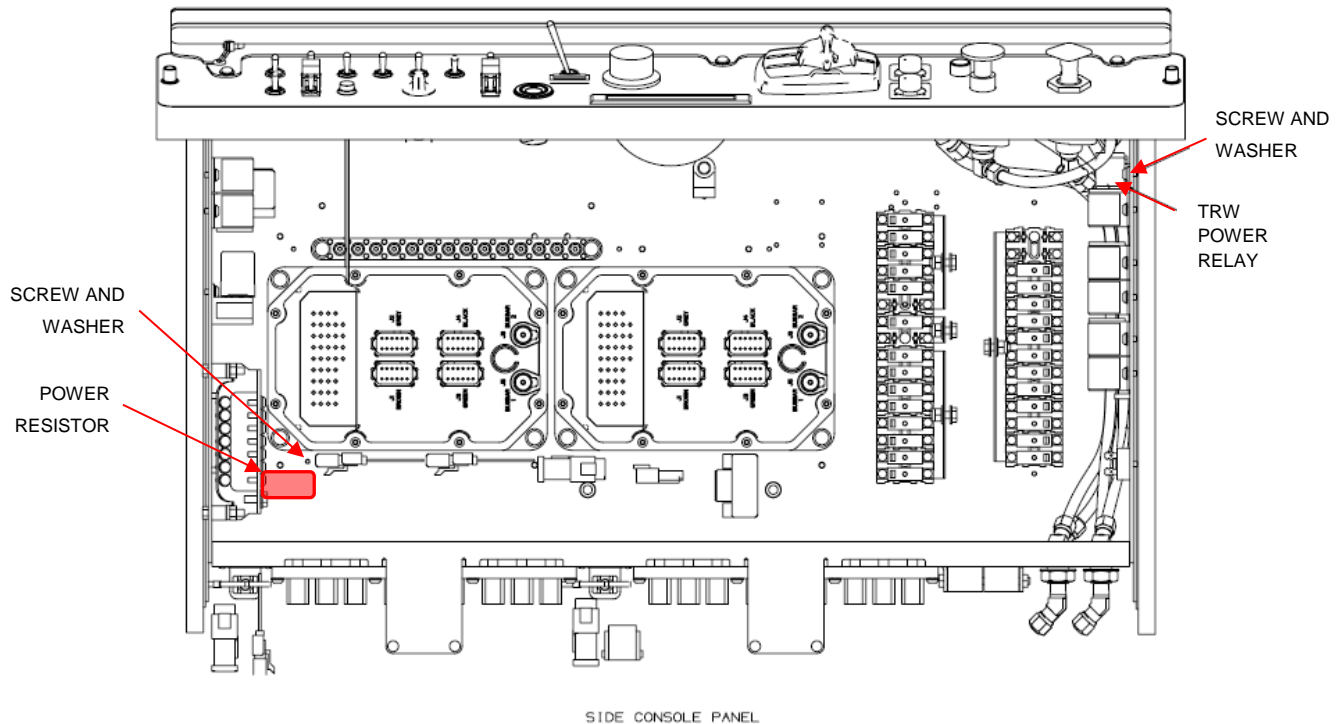

Figure 6: Side Console Panel Locations
27. Install this new relay assembly using the provided screw (PN: 14S00006) and washer (PN: 659000). This relay will be installed in the next position above the 24V relays on the right side of the panel, refer to Figure 6.
28. Locate the provided power resistor (PN: 627976). Using the provided screw and washers, (same parts as above) install below node 9. See Figure 6.